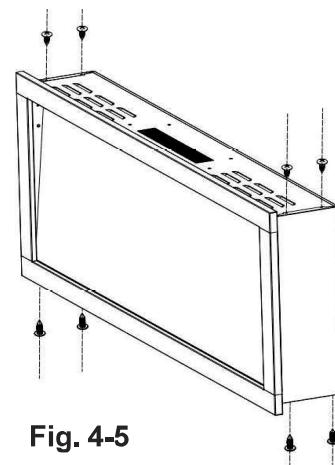

Fig. 4-5
B. Fix the panels by using the shorter screws (K) provided. (Fig 4-5)